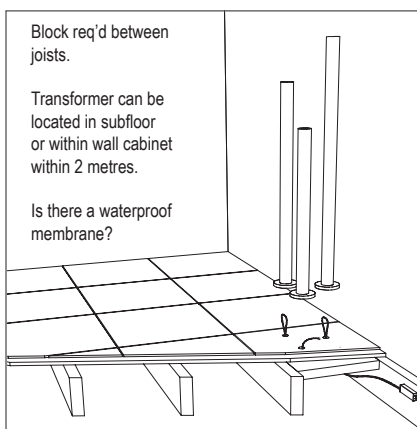
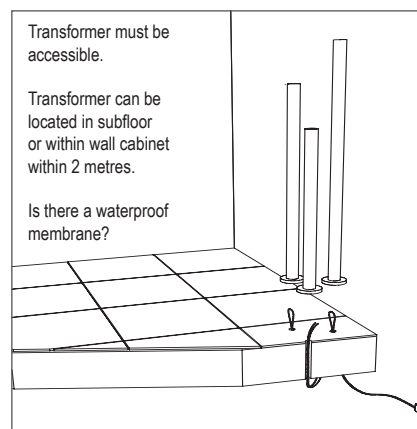
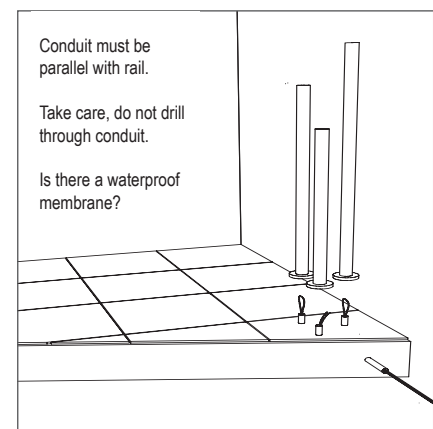
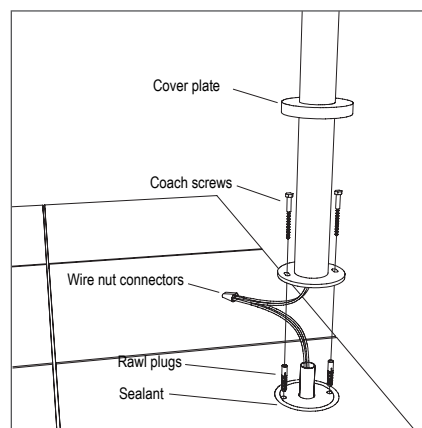

FIGURE 1
FIGURE 2
FIGURE 3
FIGURE 4
- Typical wiring for 4 scenarios is shown in **Fig 1**. - Timber floor, **Fig 2**. - Concrete slab floor with drilled hole for wiring, **Fig 3**. - Concrete floor with embedded conduit for wiring, **Fig 4**. - Tiled floor